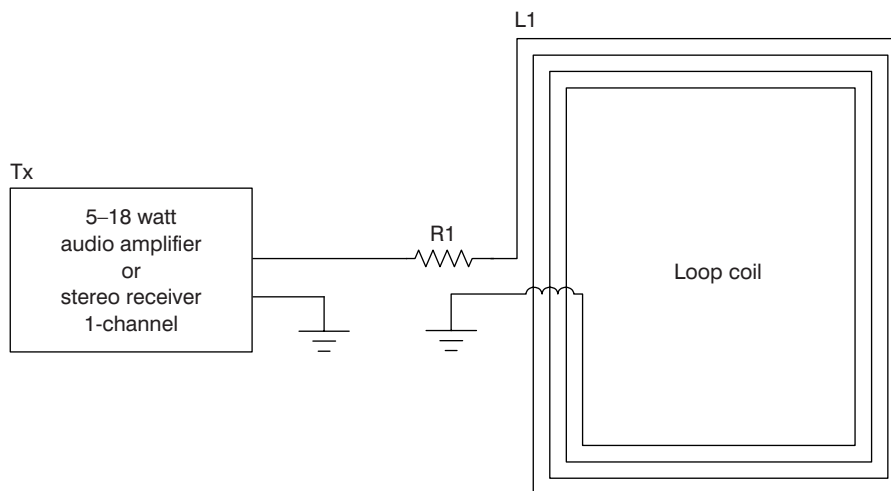

Figure 15-2 Induction loop transmitter I
You can easily build your own induction loop communication system. First we will begin by describing the “transmitter” section of the system, as shown in Figure 15-2. In its simplest form an induction loop “transmitter” can consist of a mono or stereo Hi-Fi receiver, a resistor and a large loop coil placed around the perimeter of a house, room, or your easy chair. If you have a stereo receiver with a speaker output A-B switch, you can select the (B) output for your induction loop system. You would place an 8 ohm, 10 watt resistor across the output of the left channel’s output and then place an 8 ohm, 10 watt resistor in series with a large loop coil as shown. When you wanted to use the induction loop system, you would switch to the (B) speaker output; it’s that simple.